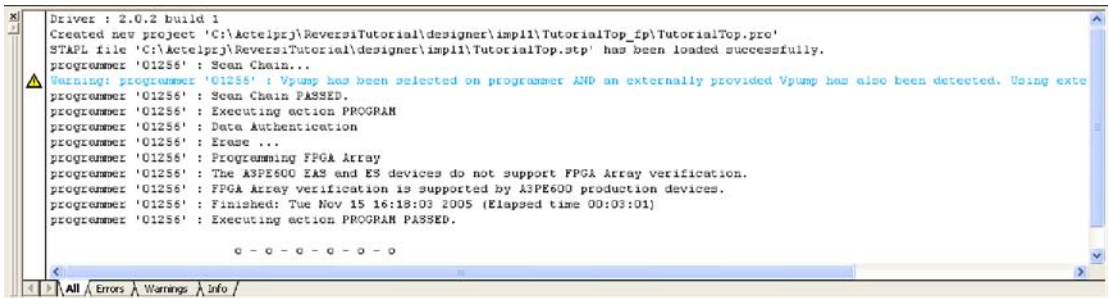

Figure 5-52. FlashPro Log Window
5. Programming will take approximately two and a half to three minutes to complete. Under the **Programming Status** heading, a progress bar will appear. Alternatively, the log window may also be viewed (Figure 5-52).